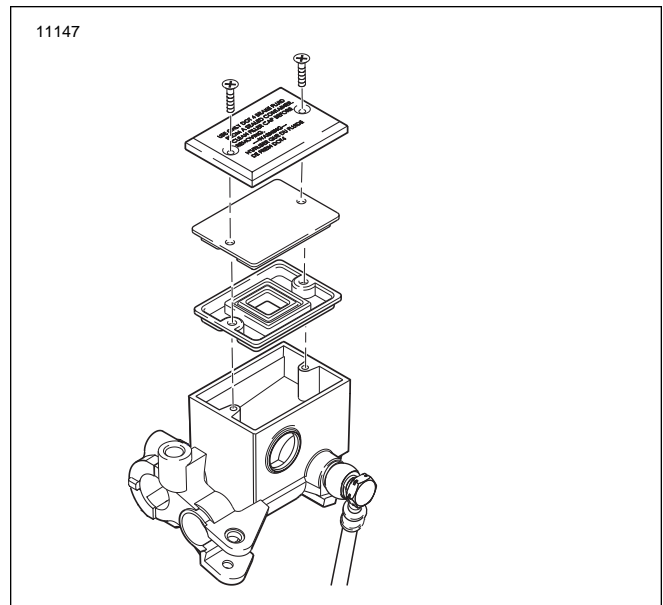

Figure 1-10. Fasteners, Cap, Stiffener and Diaphragm
3. See Figure 1-10. Remove two fasteners and reservoir cap, stiffener and diaphragm.